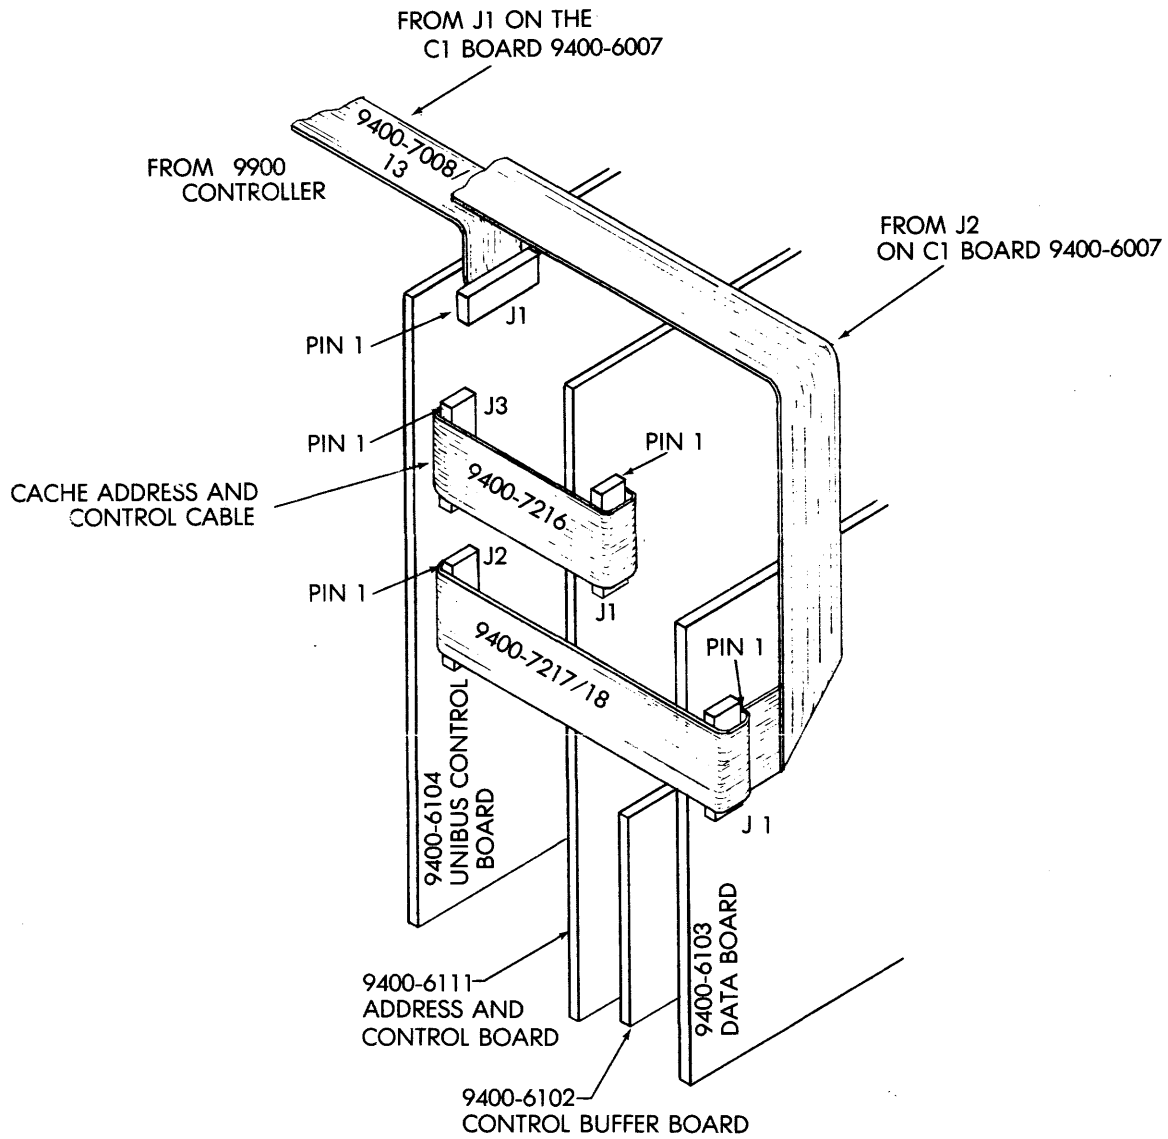

Figure 4-3. Cache Bus CPA Cabling
The controller is connected to the CPA by two cables. Both are 40-conductor ribbon cables originating at the computer interface (CI) board (9400-60X7) located in the controller enclosure (See Figure 4-3).
A 40-conductor ribbon cable (9400-7216) extends from connector J3 on the UNIBUS control board (9400-61X4) to connector J1 on the address and control board (9400-61X1). Refer to Figure 4-3.